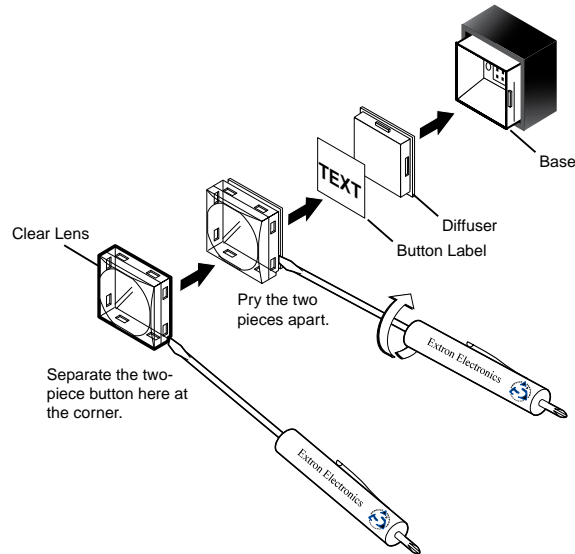

Figure 80. Illuminated Button Label Replacement
1. Remove the button from the matrix switcher; use a small, flat bladed screwdriver such as an Extron Tweeker to gently pry a button out from the front panel (see figure 80).